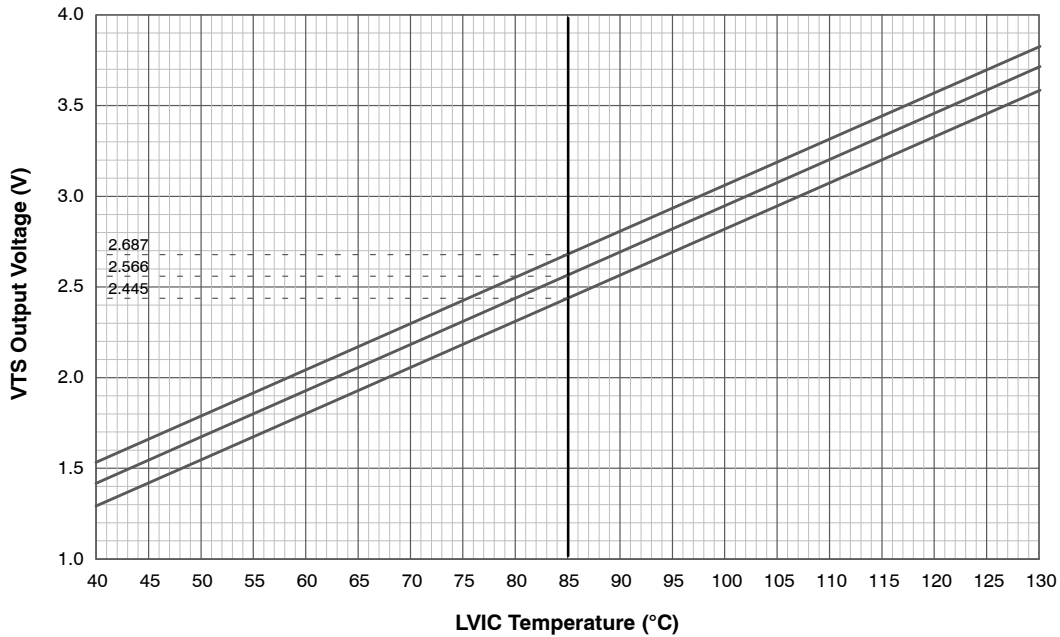
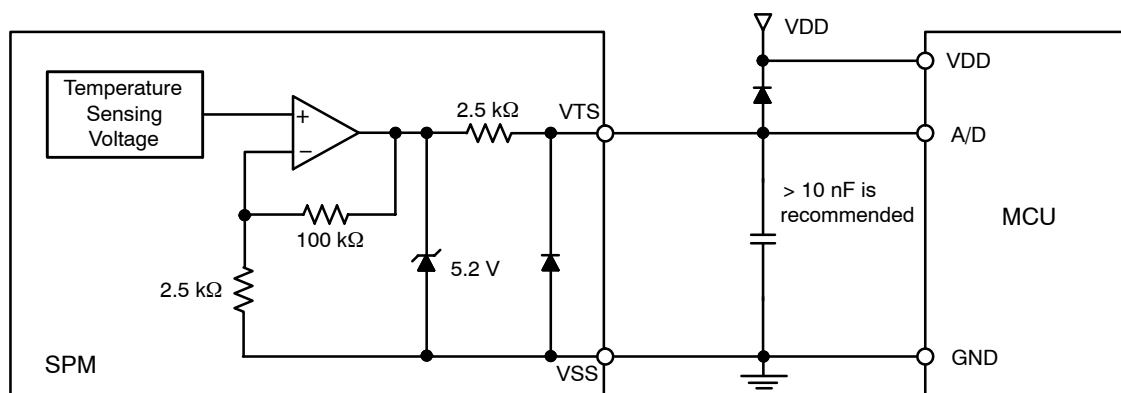

Figure 6. Temperature Profile of VTS
Figure 7. Internal Block Diagram and Interface Circuit of VTS
| VTS                 | Voltage Output for LVIC Temperature Sensing Unit | VDD(L) = 15 V, TLVIC = 25°CSee Figure 6 and 7 (Note 8) | 0.909 | 1.030 | 1.151 | V    |
- TLVIC is the temperature of LVIC itself. VTS is only for sensing temperature of LVIC and cannot shutdown IGBTs automatically. The relationship between VTS voltage output and LVIC temperature is described in Figure 6. It is recommended to add a ceramic capacitor of 10 nF or more between VTS and VSS (Signal Ground) to make the VTS more stable as described in Figure 7. Refer to the application note for this products about usage of VTS.